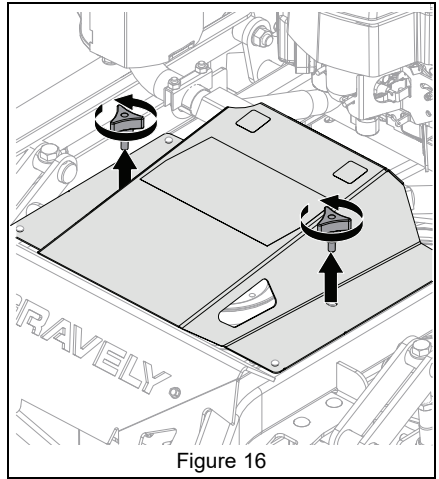

Figure 16
5. Open belt access panel as needed. See Figure 16.